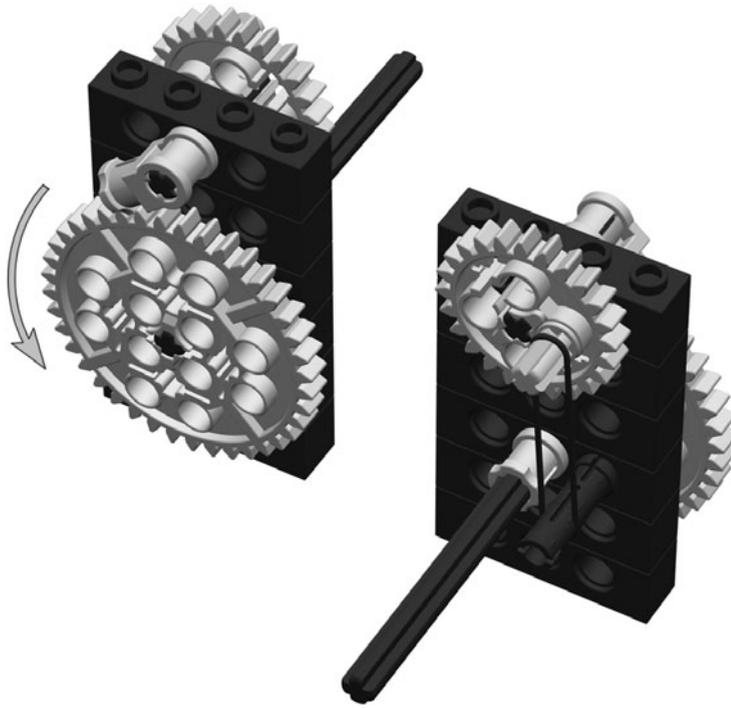

Fig. 14-24. Ratchet.
**Try This:** Another useful mechanism, the *ratchet*, allows motion in one direction but not the other (Fig. 14-24). It consists of a toothed wheel, like a gear, and a *pawl* that slips between the teeth. As the ratchet wheel rotates
The pawl needs to be pushed down so that it catches solidly in the ratchet. Gravity can serve this purpose in some cases, or the pawl can be held down with a spring or, in the case of Fig. 14-24, a rubber band.